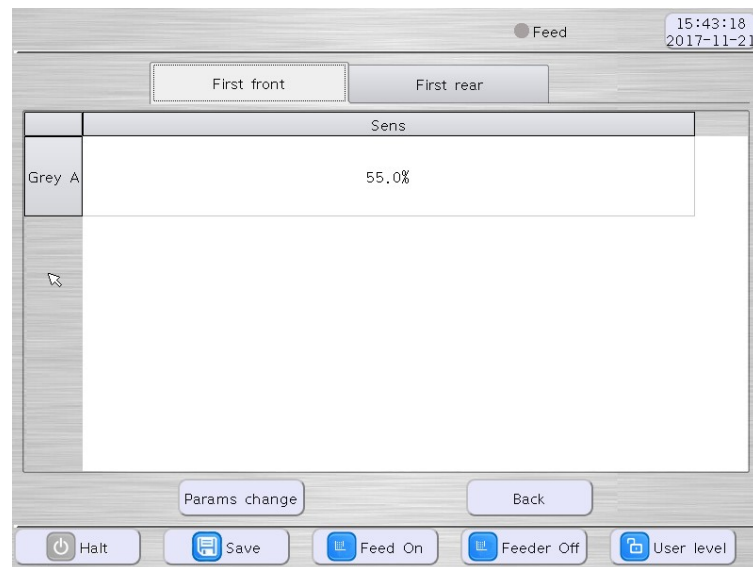

Figure 6-1
- 1) As the operator, you are allowed to adjust the detection sensitivity of the bad material from sorting function set up by the plant engineer or technical support. In general, increasing sensitivity will result in better purity of the accept material, but may carry over some good material in the reject. To adjust the sensitivity, click on the “Set Sens” icon on the main menu, then it will bring you to the next page as shown in Figure 6-1.
- 2) To adjust the sensitivity, you can change the number in the column “Sens” for “First front” camera and “First rear” camera. In Figure 6-1, you can only change the sensitivity for “Grey A” but you may have options to adjust the sensitivity for “Grey B”, “Discolor A”, “Discolor B”, “Tricolor A”, “Tricolor B” as well depending on the settings of the original scheme.